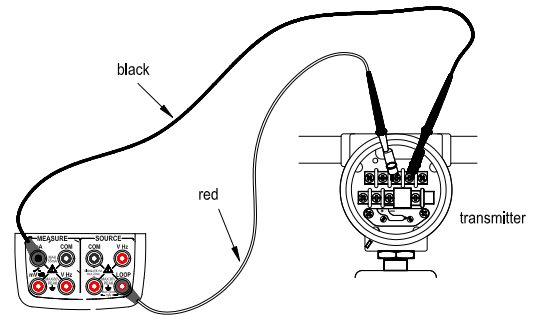

Figure 11 Using 24V loop power circuit
Step 2: Connect the calibrator with the loop current terminal of the supply converter as shown in Figure11.